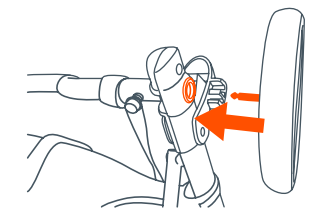

Fig. 5
- Press the rear wheel posts into the rear frame hub until it clicks into place (Fig. 5). **NOTE:** Pull on the rear wheel to ensure that it is securely attached to the stroller.